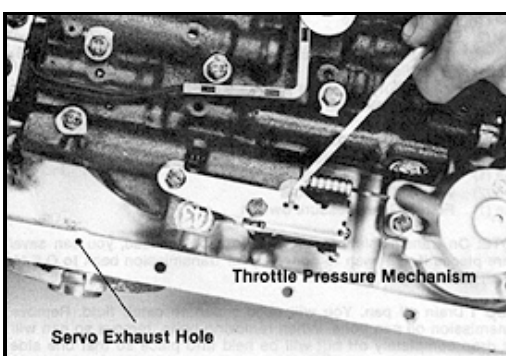

Figure 10
STEP 10 Install the throttle pressure mechanism. Attach the cable linkage to the larger lever. Holding the large lever down and the small lever up, slip the mechanism over the roll pin on the valve body and install the two (2) bolts (**See Figure 10**).
STEP 13 Clean all old gasket material from oil pan and the case. Wash pan in solvent and install with new pan gasket supplied. Do not use any gasket sealer. Make sure the servo exhaust hole is not plugged or stopped up (See Figure 10). When cleaning gasket material, some can accidentally get into this opening. Install pan bolt and tighten to 10 foot pounds.